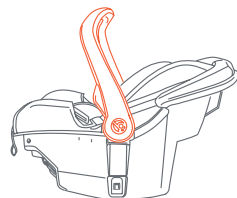

Fig. 31-1
3. If the Harness Straps require adjustment, remove your child from the Safety Seat. Rotate the handle to the upright carry position (Fig. 31-1).